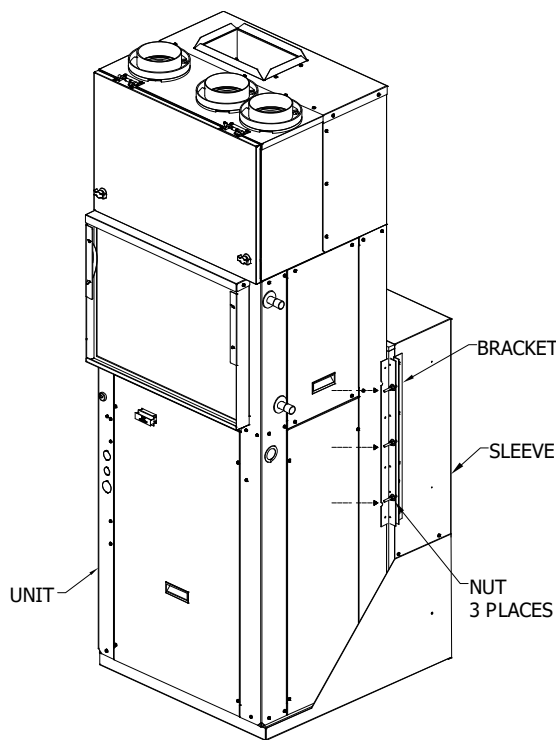

FIGURE 17 - Wall Sleeve Seal
9. After the seal is inspected, lift the unit onto the base of the sleeve and slide the unit forward to engage the seal. The unit uses locking brackets with weld studs. Align the unit to the bracket on the sleeve. Tighten down the unit until there is a tight seal with the sleeve. See **FIGURE 17 - Wall Sleeve Seal**.